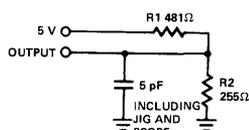

Figure 1b
- At any given temperature and voltage condition, t_{HZ} is less than t_{LZ} for all devices. Transition is measured ±500 mV from steady state voltage with specified loading in Figure 1b. These parameters are sampled and not 100% tested.